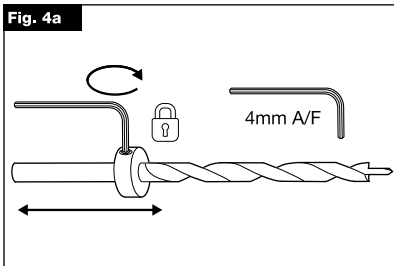

Fig. 5
- Screw position/material thickness - **(Fig. 5)**